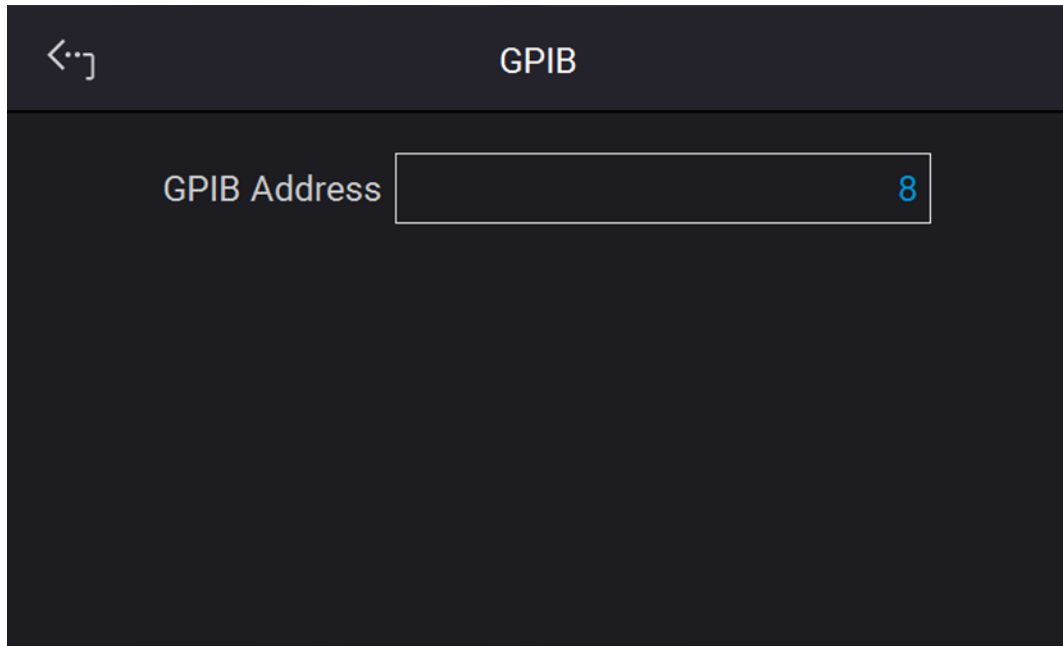

Figure 3-45
1. In "Interface" page, select GPIB to enter the power supplies GPIB Address as shown in Figure 3-45.